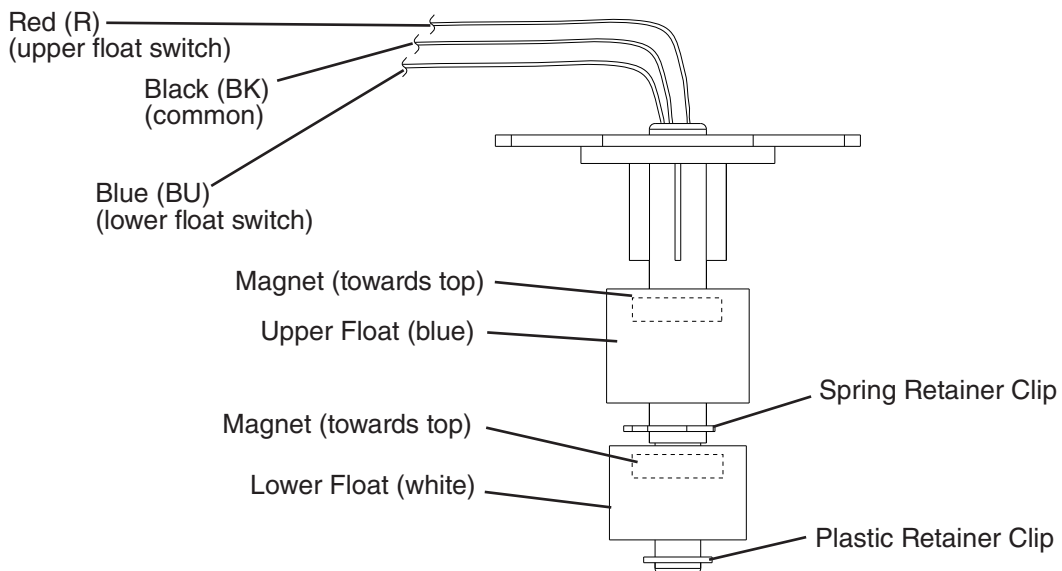

Fig. 2
- 5) While not necessary, the floats can be removed from the shaft during cleaning. If you remove them, note that the blue float is on top (UFS) and the white float is on bottom (LFS). See Fig. 2. The floats must be installed with the magnets inside them towards the top of the switch. Installing the floats upside down will affect the timing of FS operation.